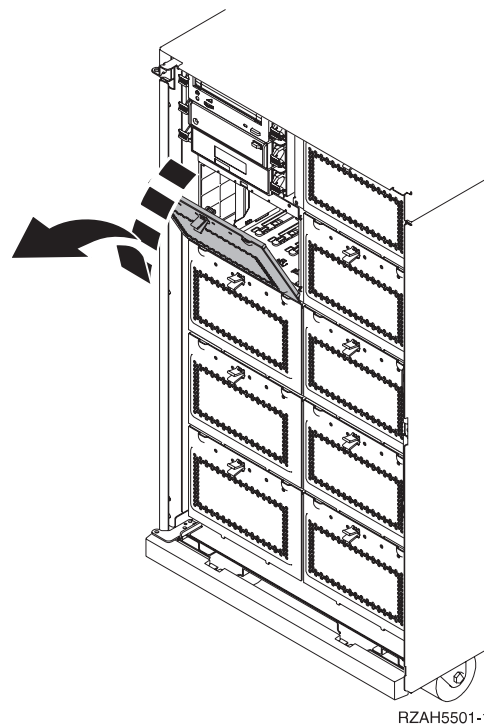

Figure 35. Removing the disk unit enclosure shield
- ___ 1. Refer to Figure 35 and remove the enclosure shield for the disk unit.